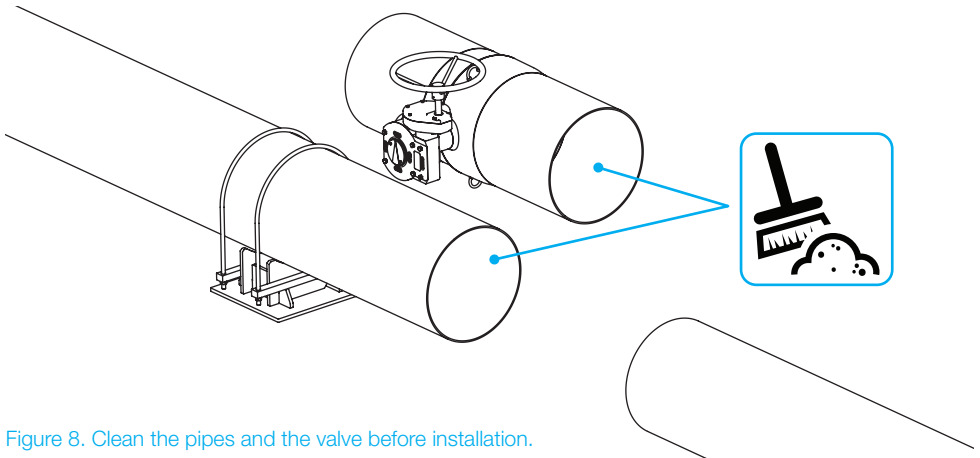

Figure 8. Clean the pipes and the valve before installation.
- Clean the pipes and the valve, see Figure 8